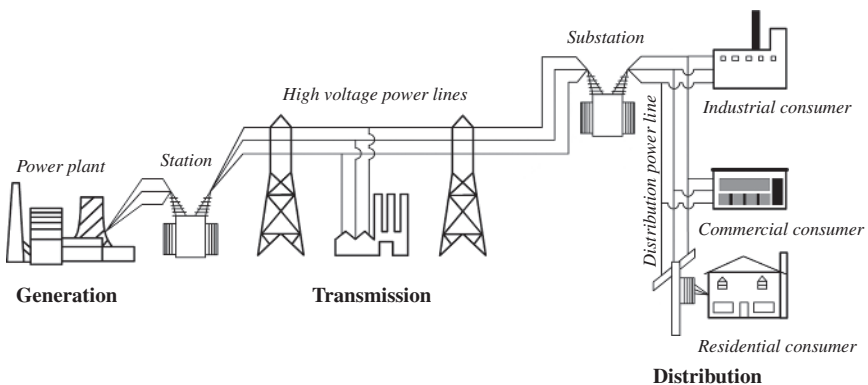

Figure 1-1 System overview.
Figure 1-1 shows the basic building blocks of an electric power system. Starting with **generation**, electrical energy is produced and then transformed into high-voltage (HV) electrical energy, more suitable for long-distance transportation, which occurs at power plants and their associated **transmission substations**. Power plants transform other sources of energy into producing electrical energy. For example, heat, wind, solar, mechanical, hydraulic, chemical, geothermal, nuclear, biofuel, and other energy sources are used to produce electrical energy. HV **transmission power lines** efficiently transport this electrical energy long distances to consumption locations. Remote **distribution substations** transform HV transmission electrical energy into more suitable lower HV power lines called “**primary feeders**” for delivery to consumers. The distribution part of the electric power system starts with the lower voltage side of substation transformers, and all distribution primary voltage feeders, and service runs to consumers. Services to consumers require electrical energy on